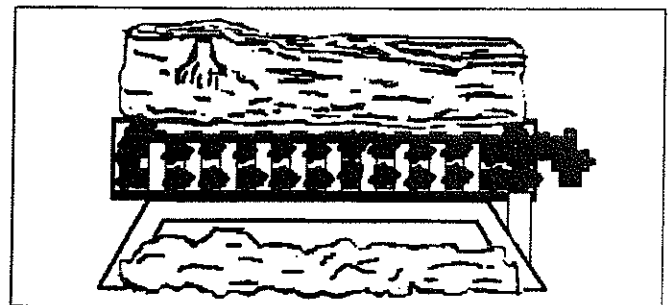

Figure 7. Coal and Ember placement
- E. Place the Ceramic Fiber Coals in the top burner pan. Concentrating the majority of coals to the center of burner pan. (See Figure 7)
- NOTE: Only glowing embers are used on bottom burner. (Burner 3) (See Figure 7)